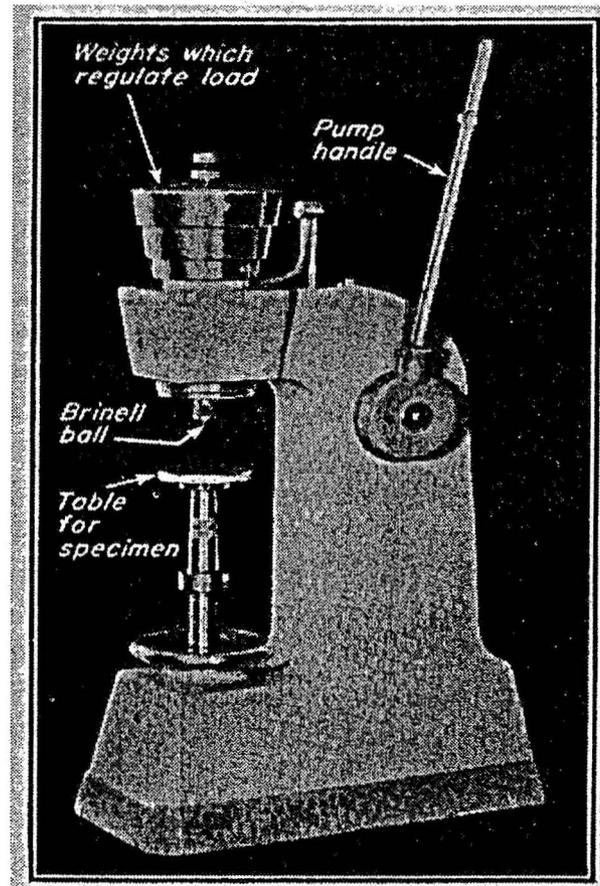
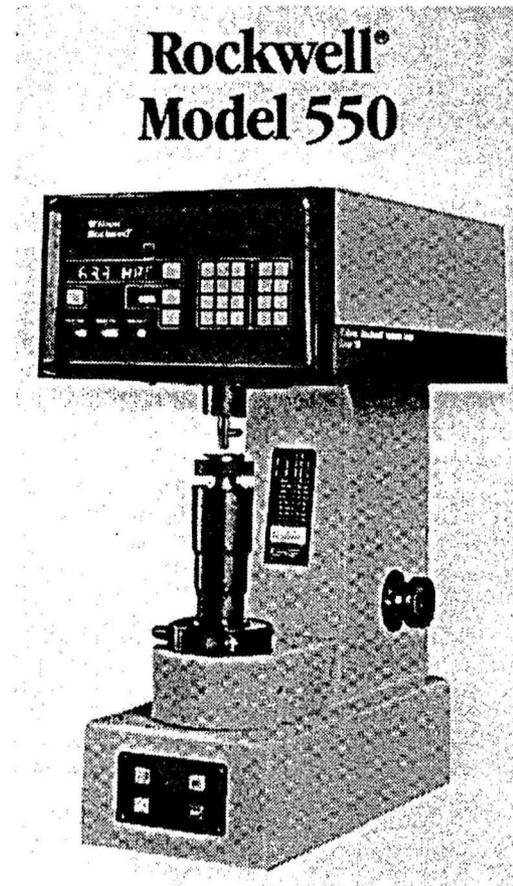

Figure 70 - Brinell Hardness Tester
Figure 71 - Rockwell Hardness Tester
- ➔ **Figure 70 shows a Brinell hardness tester and Figure 71 shows a Rockwell hardness tester.**